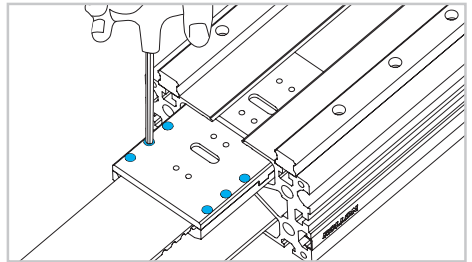

Fig. 14
- 15) Move the inner carriage to the end of the profile, remove the belt-tightening screws and remove the belt (Fig. 14).
- 18) Move the inner carriage to the end of the profile and remove the belt tightening screws (Fig. 14).